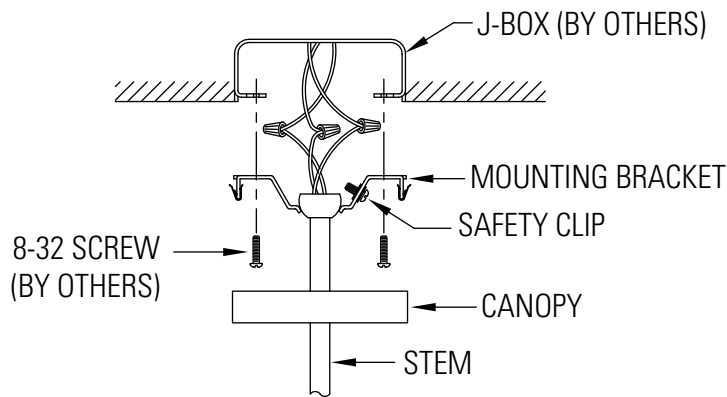

Figure 3
- A. Replace SAFETY CLIP to MOUNTING BRACKET and make necessary power connections at J-BOX. (Fig. 3).
Snap CANOPY onto MOUNTING BRACKET flush with ceiling (Fig. 3)